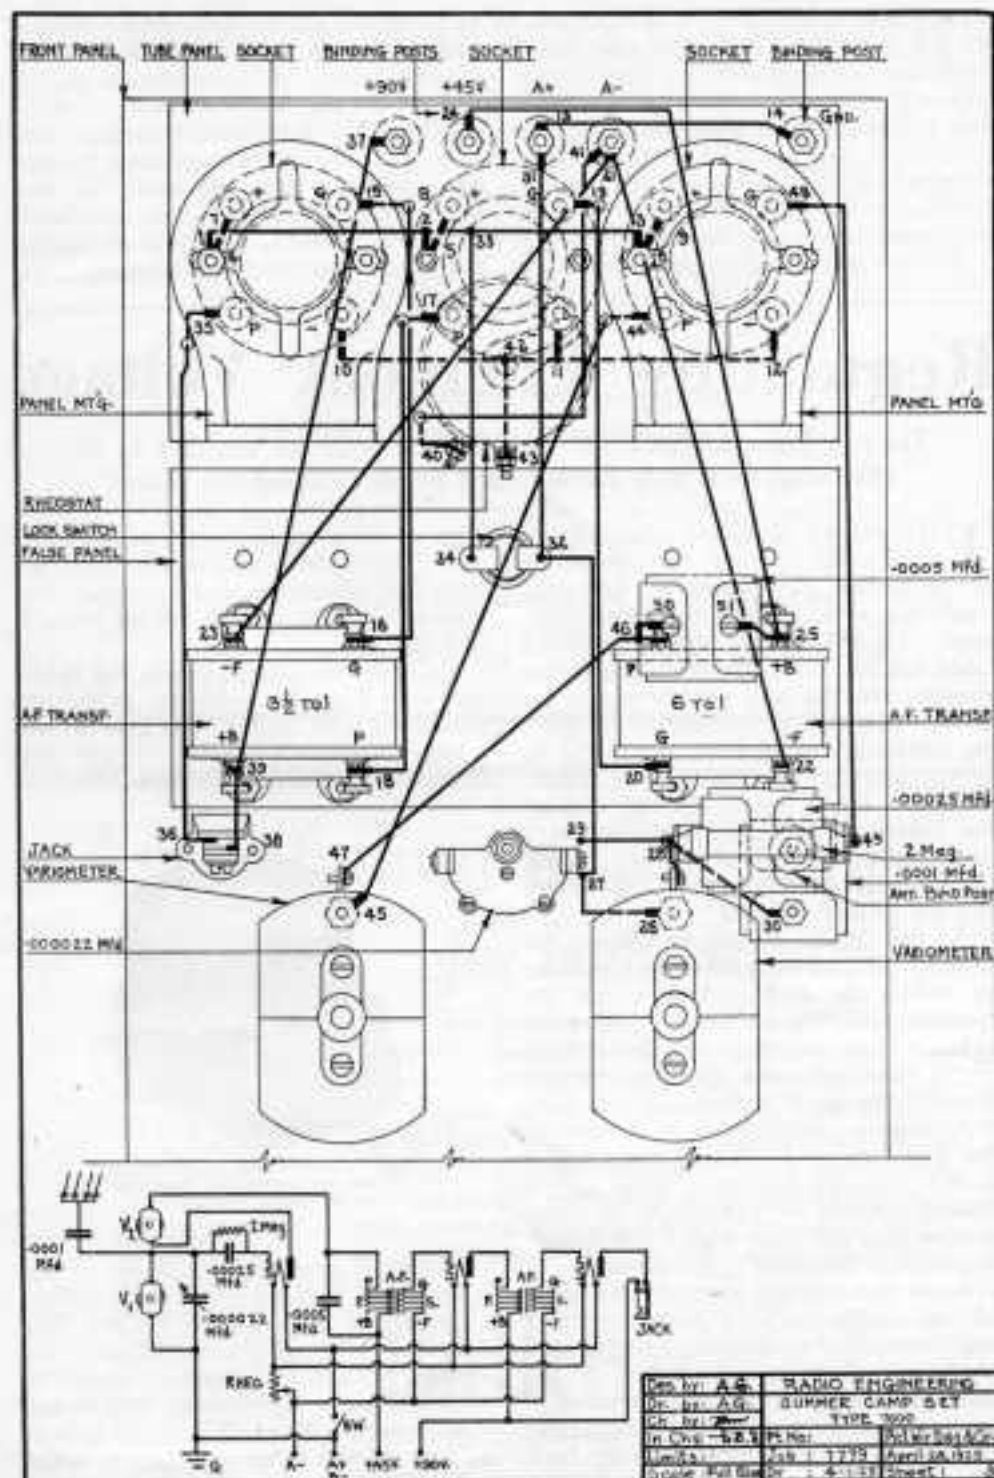

Fig. 4. Picture and schematic wiring diagrams of the type 7600 set. Dotted lines represent the wires on top of the tube panel.
The antenna for this set can be a single wire perhaps 100 ft. long and 10 to 40 ft. high. A fence will serve admirably as an antenna, or a length of insulated wire, 50 to 100 ft. long, can be thrown up into a tree. To allow the use of such a wide variety of antennas a 0.0001 mfd. Micadon is put in series with the antenna lead inside the set. This is shown in Fig. 4.
Drilling The picture wiring diagram, the in Fig. 4, is drawn to a scale of $\frac{1}{4}$ -in. to the inch. You can scale off the dimensions from that drawing or, if you want the full size dimensions, you can get the blue print panel patterns for the type 7600 receiver. In the blue prints all holes which are not marked otherwise are to be made with a No. 18 drill. Concentric circles indicate that the hole must be countersunk for a flat head screw. Holes of special sizes are marked accordingly.
per or brass sheet which is tinned before stamping. Put the lugs on each instrument as it is assembled, and make sure that each lug is pointing in the right direction, as shown by the short heavy lines in Fig. 4 before the nuts are tightened.
2. In the picture wiring diagram, Fig. 4, the tube panel is shown tipped up in order to make the wiring more clear. The lugs under the heads of the socket mounting screws are numbered 4, 5, and 6. Put lugs under each plus terminal on the sockets, and solder them to the
Put a $\frac{1}{4}$ -in. 6-32 R.H. screw through one terminal of a 0.0001 mfd. Micadon and secure a lug, pointing to the side, under the nut. Then put the antenna binding post on the front panel, fasten it with a nut, then put the other terminal of the Micadon on the binding post screw, and clamp the Micadon with a nut at the top. This arrangement can be seen in Fig. 3. Finally, mount the lock switch with the terminals as shown in Fig. 4, but do not bend out the soldering tabs.
When you have completed this work, check the wiring carefully against the schematic circuit shown at the bottom of Fig. 4.